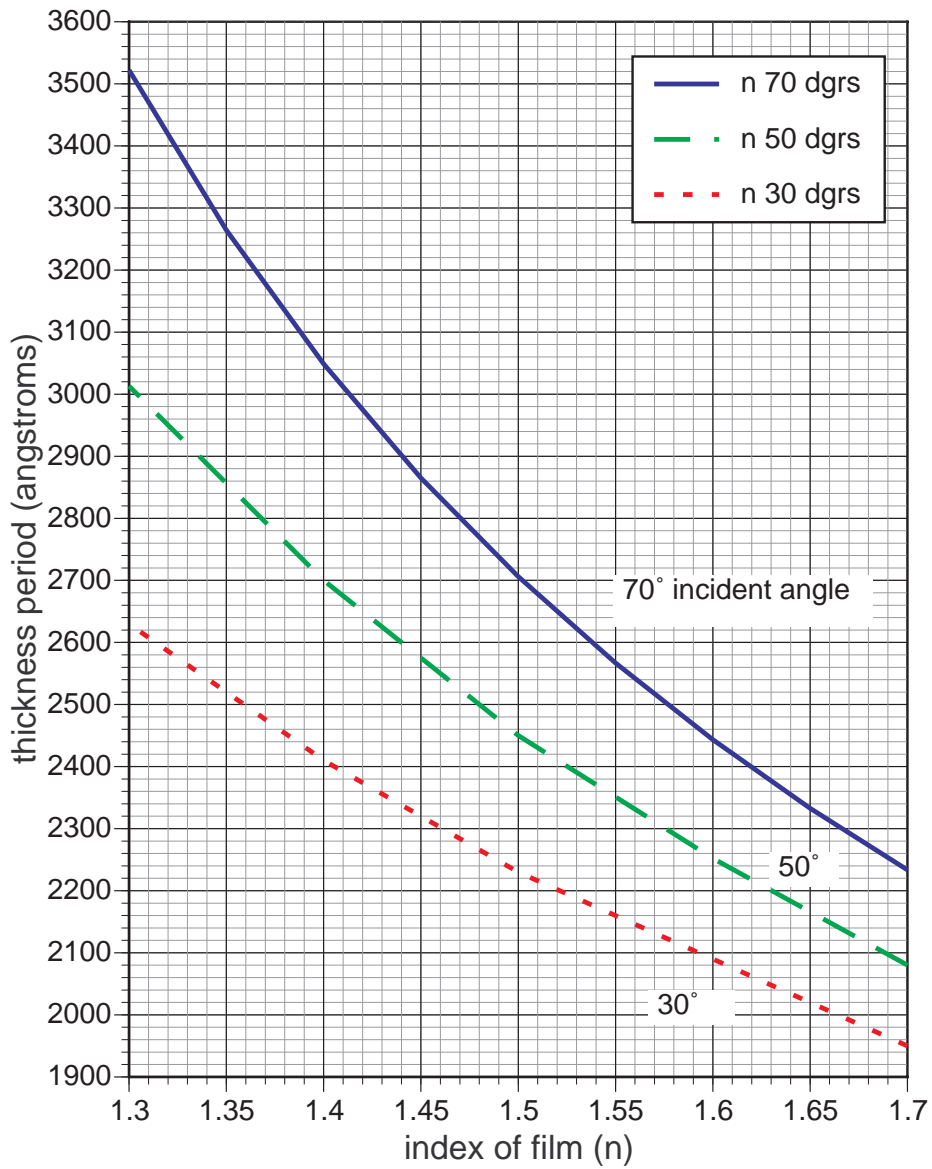

Figure 55: Thickness periods for silicon.
18. If the thickness determined from the table is much lower than the expected thickness, proceed as follows: Refer to the graph of thickness periods (ω) (Figure 55) and determine the period for the given film index at the proper angle of incidence. Add the original value of film thickness to a multiple of film period to obtain the sum which comes closer to the expected film thickness.